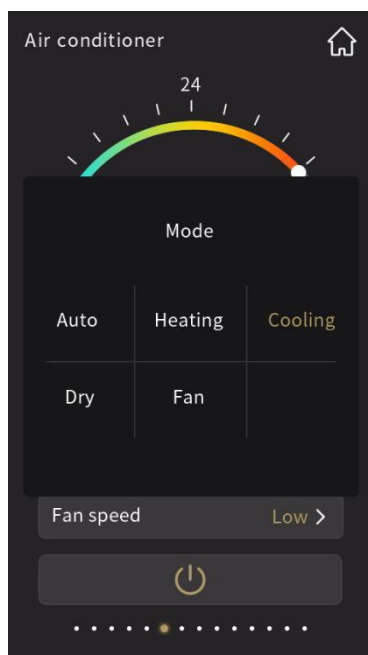

Fig.2.4.4
**⑧ Enter the mode setting by touching this area, and will pop up a sub-window shown as Fig. 2.4.4;**